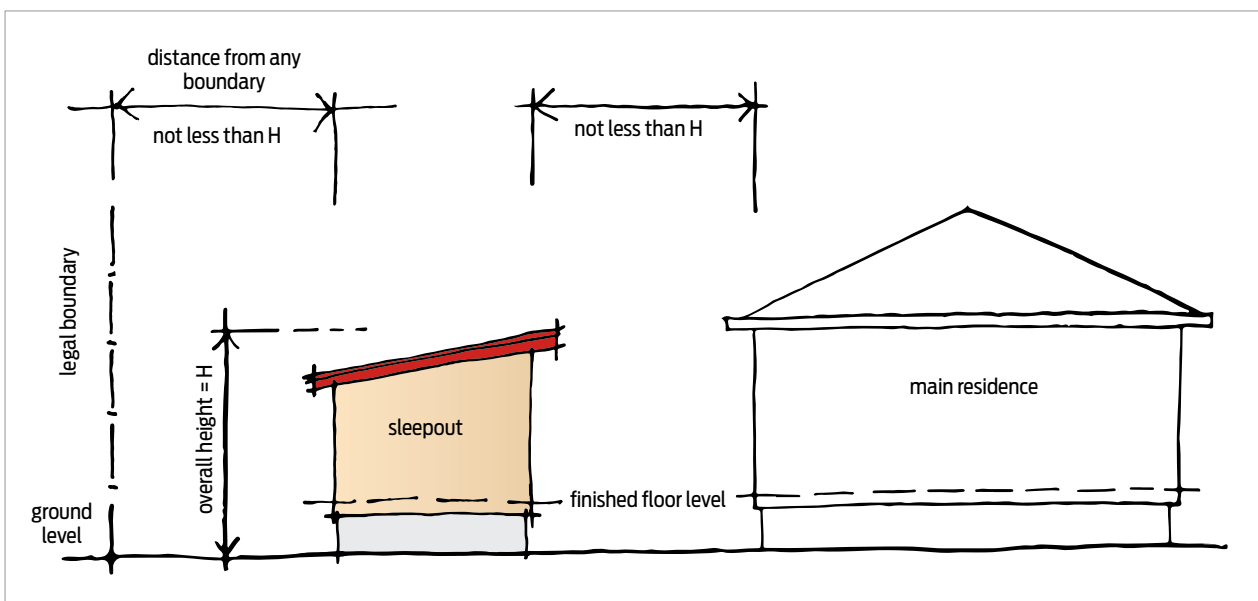

Figure 2. The exterior cladding on the sleepout must not be any closer than its own height to any residential building or any legal boundary.
- must be no closer than its own height to any boundary or residential building [Figure 2]. Never assume a fence runs exactly along the boundary. If you are lucky, there may be boundary pegs to work from. In some cases, you may need to call in a land surveyor.